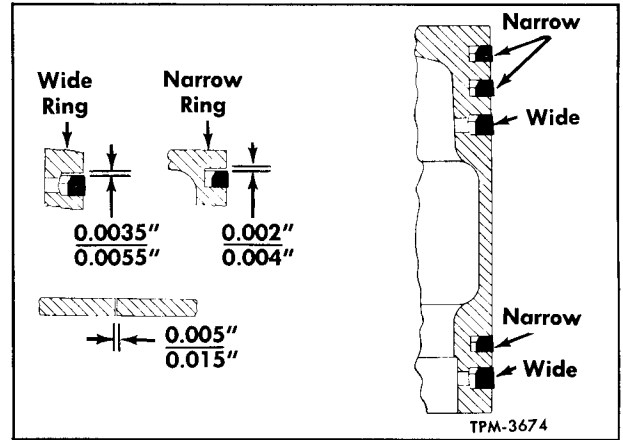

Figure 13—Piston Ring Arrangement and Clearances
sides of ring grooves should be from 0.0035" to 0.0055" for two wide rings and from 0.002" to 0.004" for three narrow rings as shown in figure 13. Ring gap should be from 0.005" to 0.015".
3. Install piston rings (12) in grooves of pistons. Rings must be installed in proper location and with pip marks upward. Refer to figure 13 for proper clearance dimensions and location of rings. Stagger position of ring gaps outside of inlet throat area.
4. Press bearing inserts (19) into rod and cap